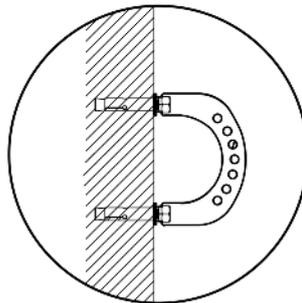

Fig. 2
2. Mark and drill the mounting holes on the wall. Using the mounting bolts (C) provided or fixings suitable to your wall/ceiling type, attach the 2 mounting brackets (D) to the wall/ceiling. Figure 2.